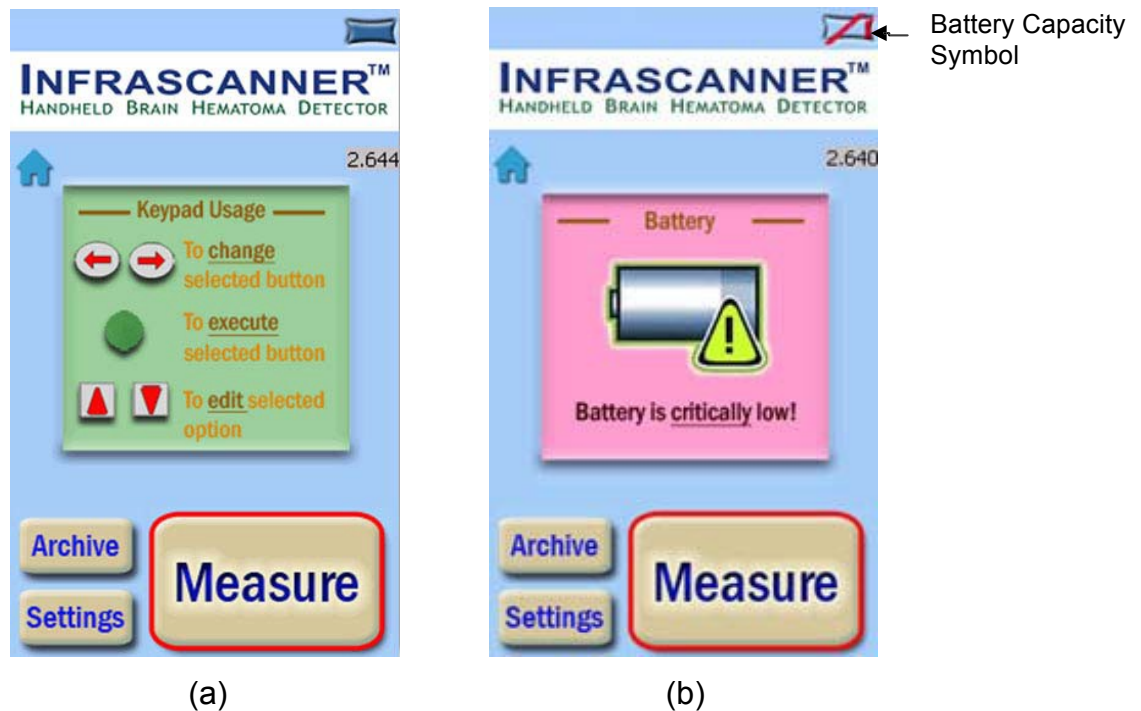
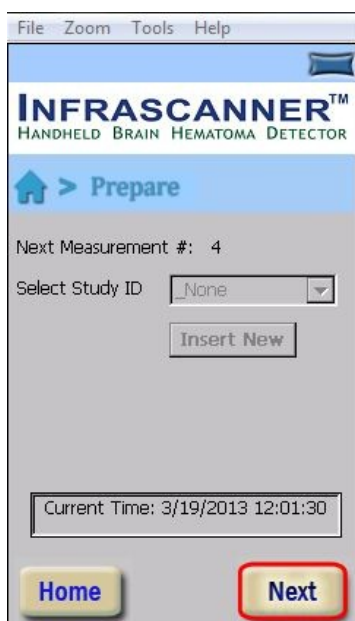

Figure 5-5: Main Screen (a – standard, b – when the battery is low)
Figure 5-6: Select Study ID Window
- Press the Measure button, see Figure 5-5. The Select Study ID screen appears, (see Figure 5-6). The Select Study ID window is de-activated, but the screen indicates a sequential file number (Next Measurement #) for the patient. Record this number in the notes, if interested in a later analysis of the patient's data.
- a. In the Main Screen (Figure 5-5), click on "Archive" button.